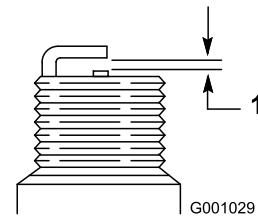

Figure 54
4. Set the gap between the electrodes on the spark plug at 0.030 inch (0.76 mm) (Figure 54).